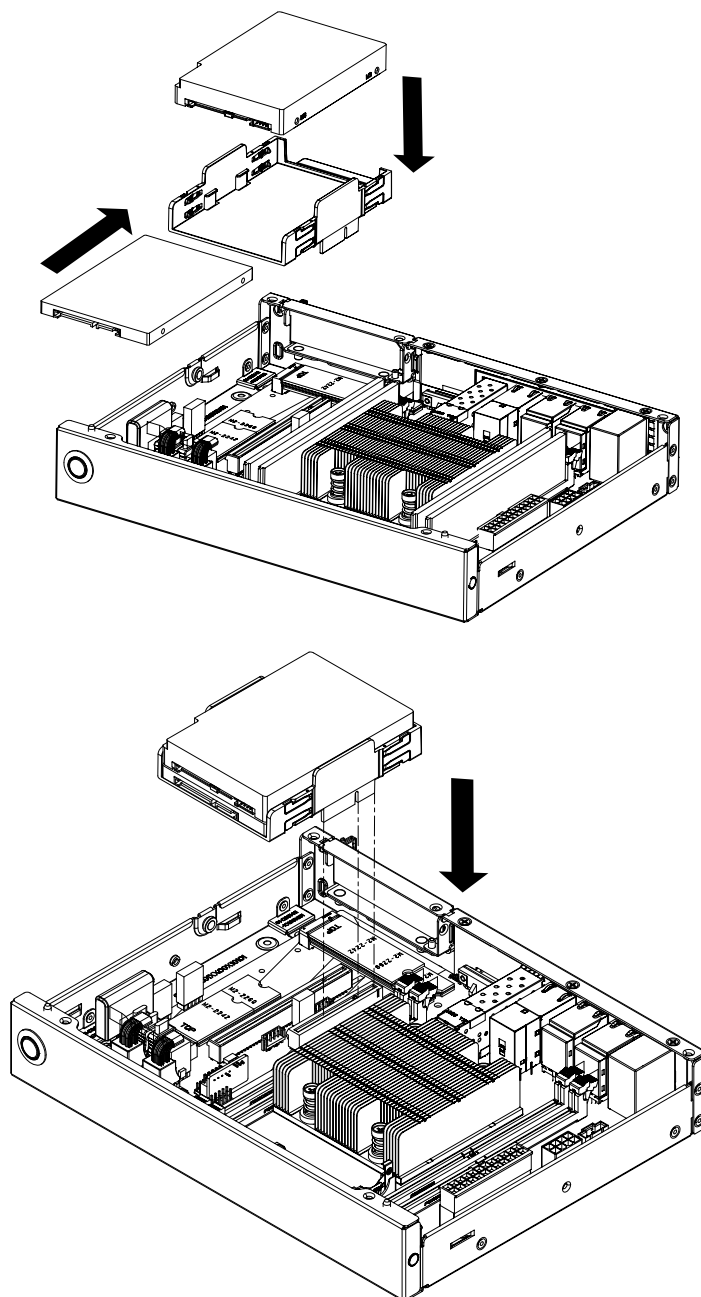

Figure 3-4. Preparing to Install the Hard Drive
3. Lift the hard drive tray from the chassis as shown in Figure 3-4.